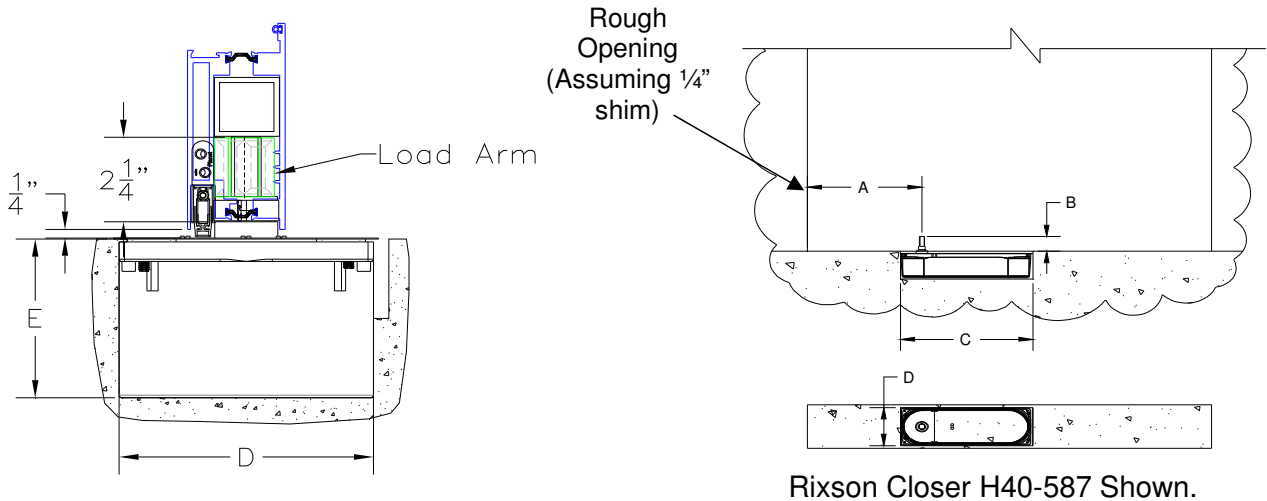

Figure 13:
2. Measure dimension of "A" as specified from opening to the spindle center (Figure 13 & Table 2).